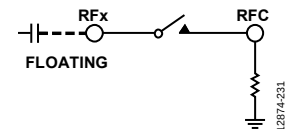

Figure 59. Series Capacitor Directly Connected to MEMS Switch
- Connecting a series capacitor directly to the switch (see Figure 59).